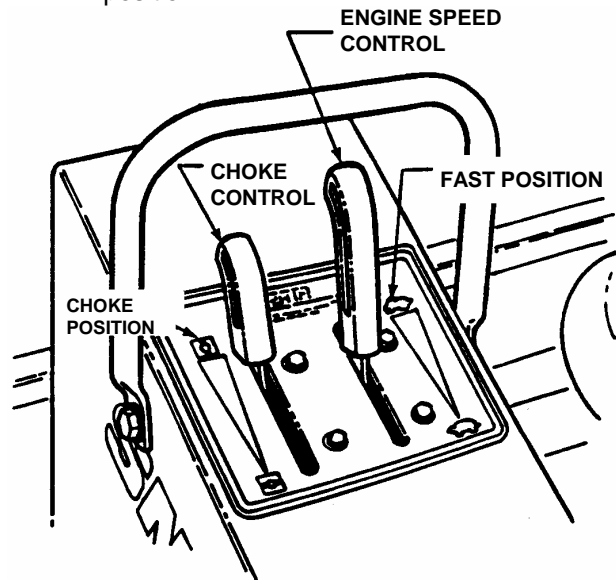

FIGURE 2.5
4. Move engine speed control to a medium speed setting. See Figure 2.5.